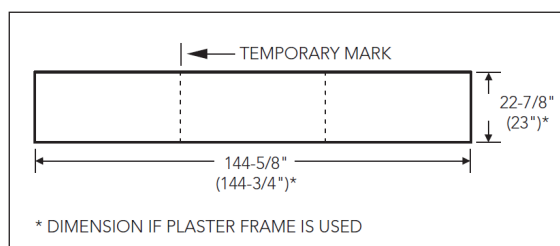

Figure 8a
To determine the required opening for a continuous row of fixtures, the following guidelines below and review Figures 8a-8d.
- a.) For 2' x 4' and 1' x 4' fixtures, use the 48-5/8" (or 48-3/4" when using a Plaster Frame) ceiling opening length for an individual fixture and add 48" for each additional fixture being included in the row. (Example: If the application required 3 fixtures in the row, the ceiling opening would be 22-7/8" wide by 144-5/8" long (or 144-3/4" when using a Plaster Frame). The length is determined by adding 48-5/8" + 48" + 48".) (See Figure 8a)
3. Mark a temporary point of (24-5/16" for 2x2 fixtures) or (48-5/16" for 1x4 or 2x4 fixtures) from the end of the row opening. This will be the location for the end plate of the first housing installed. Refer to Figures 8a and 9 to see the relationship of this marked point and the fixtures to be installed.